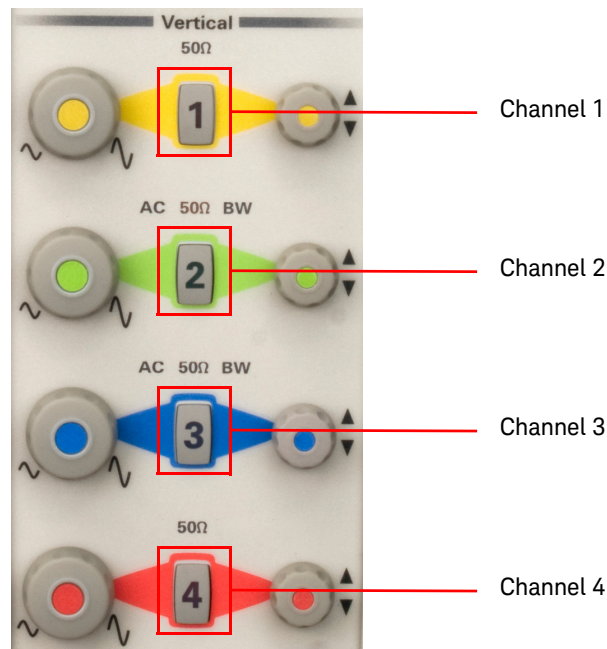

Figure 2-5 Channel number buttons in the Vertical section
- 1 Press the desired channel number button in the Vertical section to turn on the channel as shown in Figure 2-5.